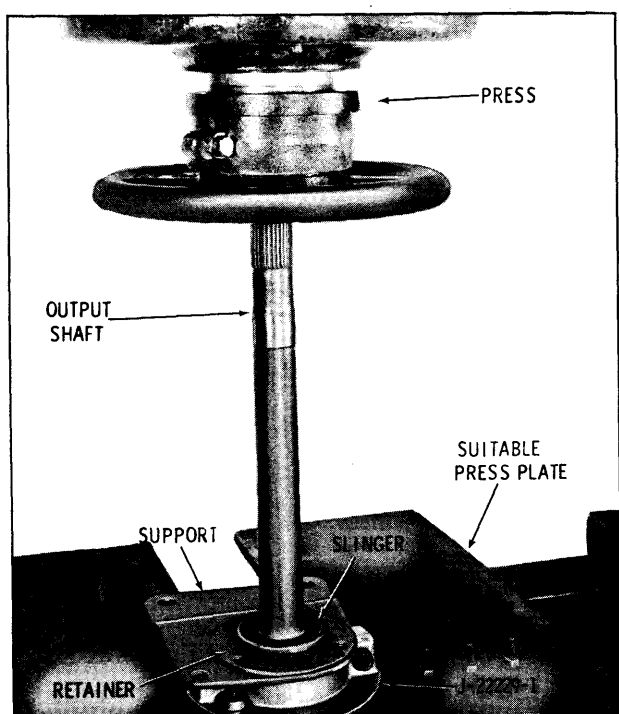

Fig. 3EC-6 Removing R.H. Output Shaft Bearing
6. Install support to engine and brace. (Fig. 3EC-4)